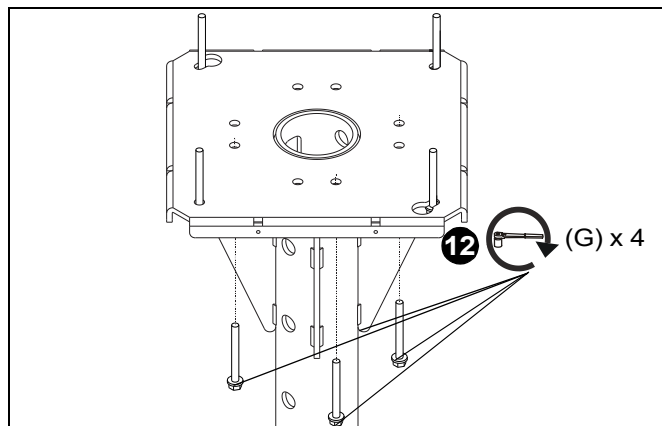

Figure 6
12. Install four M8 x 75mm concrete anchors through four inside holes drilled in Step 11. (See Figure 6)